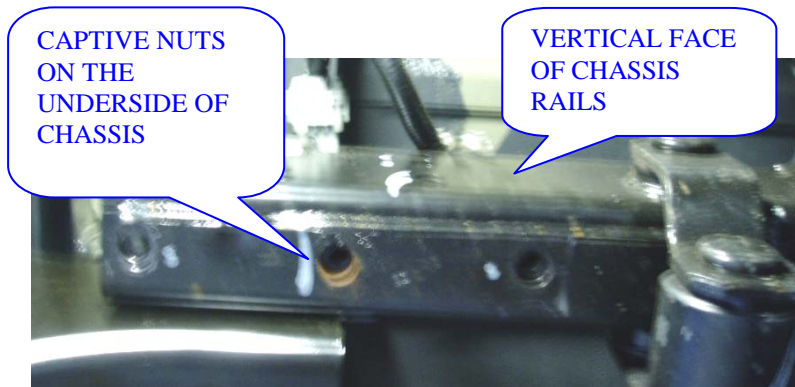

FIG 1
- 2 Offer tow bar to rear of vehicle so to align slots in side plates with captive nuts on the underside of the chassis rails see fig 1.